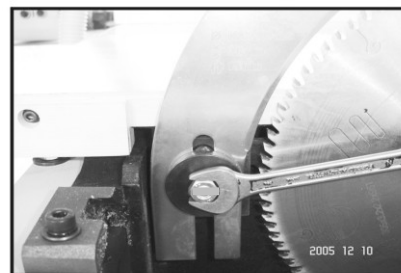

Fig. 33
8. Loosen the riving knife center bolt, slide the riving knife over the bolt (Fig. 33) and slightly tighten.